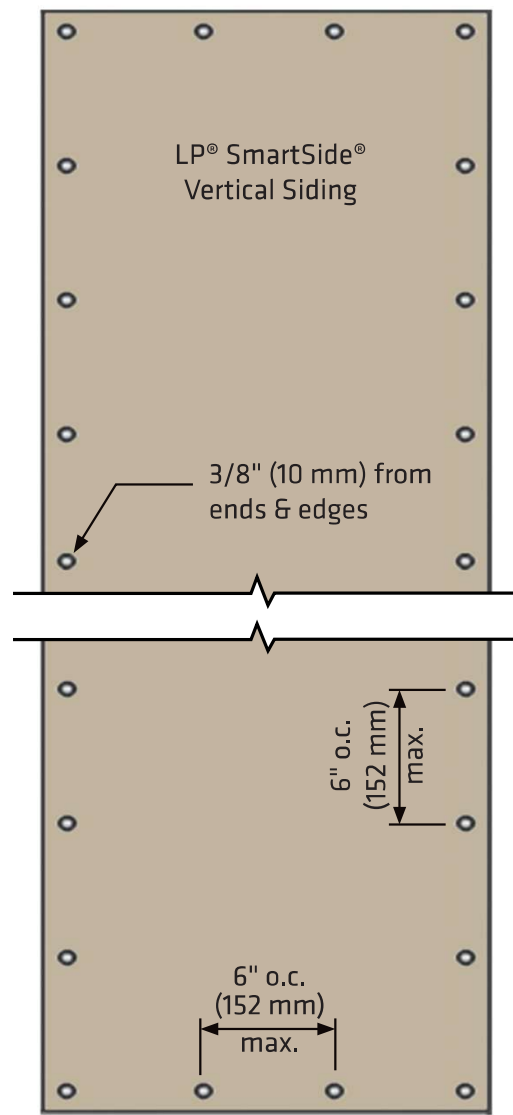

Figure 3c
- Maximum 3/8 inch (10 mm) from ends and edges *(See Figure 3c)*
- Fastened a maximum of 6 inches (152 mm) o.c. along the perimeter *(See Figure 3c)*